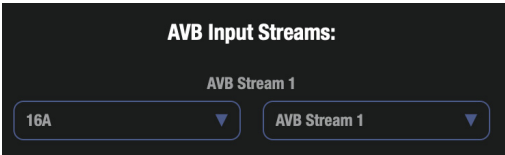

Figure 9-2: Connecting an input stream.
- 4 Go to the Device tab. In the *AVB Input Streams* section choose the 10pre as a source device for one of the streams and choose *Media Clock* for its *Source Stream* (Figure 9-2 on page 77), if compatible. If not, choose any available input stream from the menu.